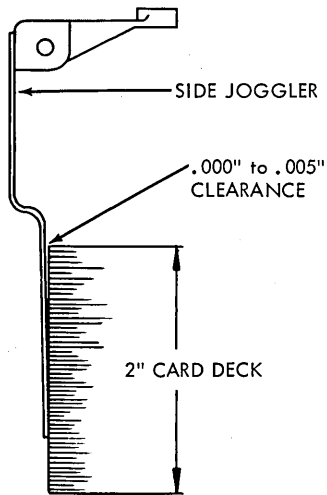

Figure 2-10A. Side Jogger Adjustments
1. With a two inch column of cards in the hopper, turn the file feed drive until the hopper joggler cam follower is on the high dwell of the cam. Set the adjusting screw for  $.000''$  to  $.005''$  clearance between the top of the deck and the joggler arm (Figure 2-10A). NOTE: There is no timing relationship between the side and front joggler cams, nor between the cams and the feed knives. The front joggler cams should however, be even with each other.